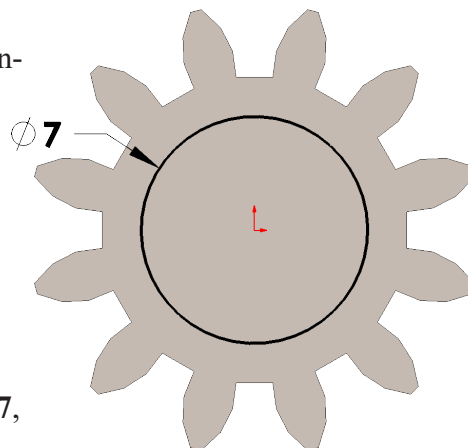

Fig. 6
Step 3. Change **diameter dimension to 7**, **Fig. 6**.